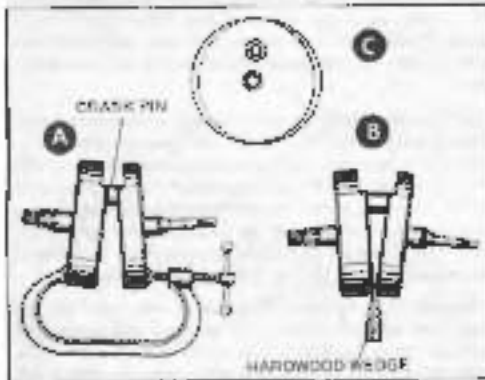

Figure 3-44. Correcting Flywheel Alignment
5. Flywheels may be out of true three ways, A, B and C. Figure 3-44 or a combination of two of the three ways.